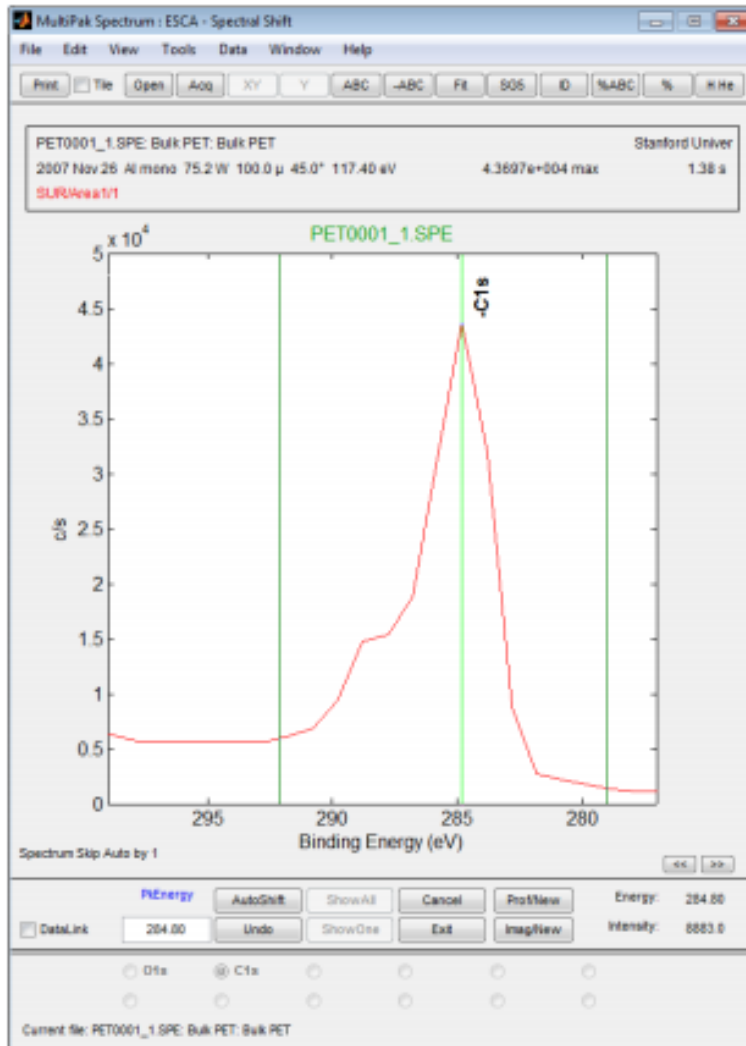

FIG 10. Shifted spectrum. The C1s peak is now centered at the reference value of 284.8eV.
7. Drag the green cursor to the center of the C-C or C-H peak and the entire spectrum will shift so C1s=284.8eV (FIG 10).